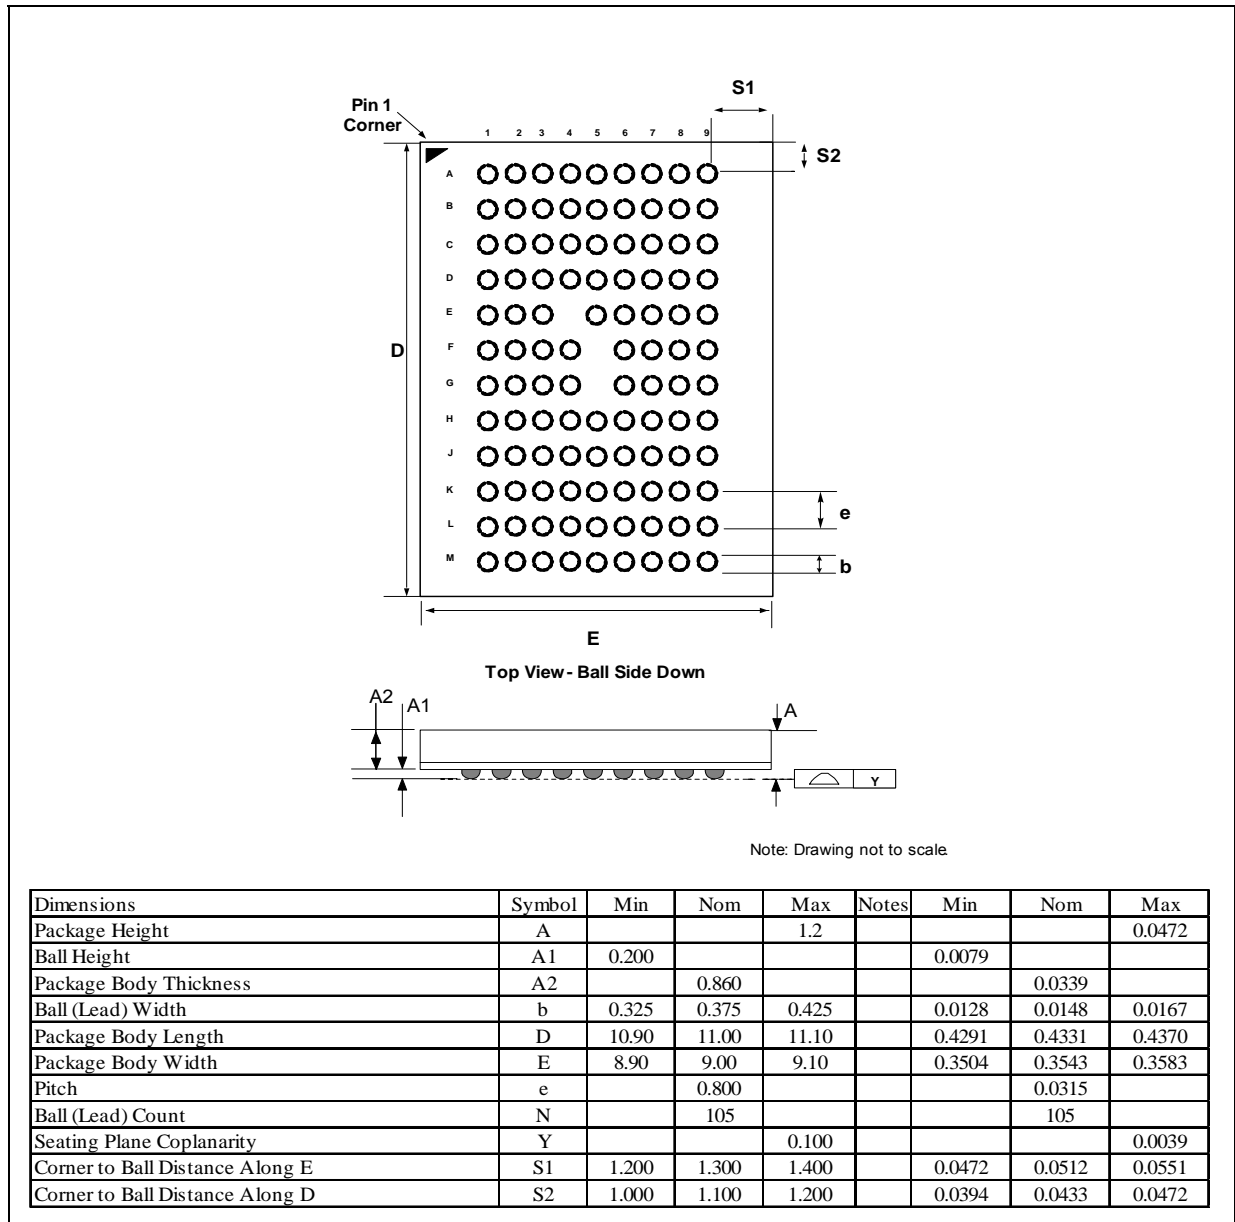

Figure 4. Mechanical Specifications for x16D (105 balls) Package (11x15x1.2 mm)
- Figure 4, "Mechanical Specifications for x16D (105 balls) Package (11x15x1.2 mm)" on page 18